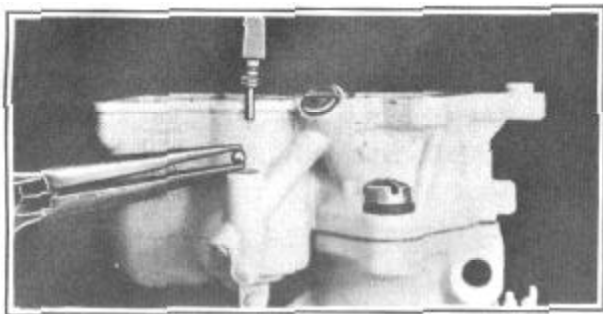

FIGURE 31
12. Install pump check ball and pump discharge ball retainer and gasket, Figure 31.